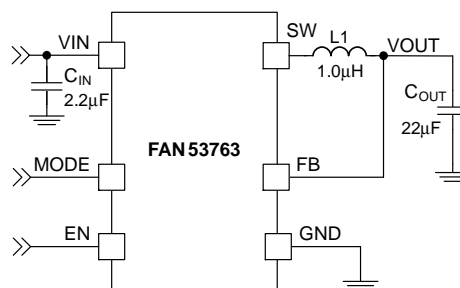

Figure 1. Typical Application
**Table 8. SYSTEM CHARACTERISTICS** Recommended operating conditions, unless otherwise noted,  $V_{IN} = 2.3\text{ V to }5.5\text{ V}$ ,  $T_A = -40^\circ\text{C to }+85^\circ\text{C}$ ,  $V_{OUT} = 1.8\text{ V}$ . Typical values are given at  $T_A = 25^\circ\text{C}$ ,  $V_{IN} = 3.6\text{ V}$ . System characteristics are based on circuit per Figure 1.  $L = 1.0\ \mu\text{H}$ ,  $2.3\text{A}$ ,  $107\ \text{m}\Omega$  DCR, DFE160810S-1R0M (Murata),  $C_{IN} = 1 \times 2.2\ \mu\text{F}$ ,  $6.3\text{ V}$ , 0402 (1005 metric), C1005X5R0J225M050BC (TDK) and  $C_{OUT} = 1 \times 22\ \mu\text{F}$ ,  $6.3\text{ V}$ , 0603 (1608 metric), C1608X5R0J226M080AC (TDK).
Unless otherwise specified,  $V_{IN} = 3.6\text{ V}$ ,  $V_{OUT} = 1.8\text{ V}$ , Auto Mode,  $T_A = 25^\circ\text{C}$ ; circuit and components according to Figure 1 and Table 2.